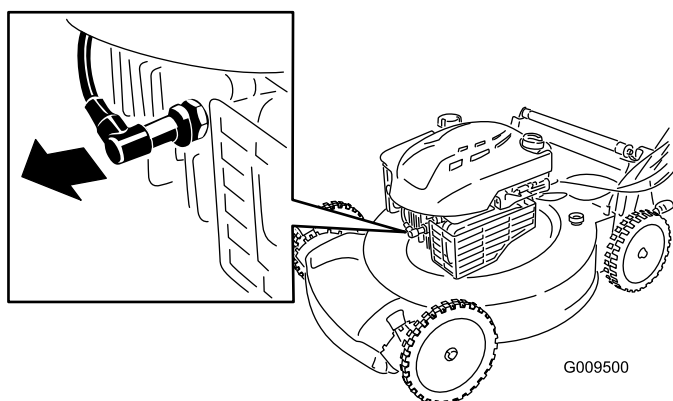

Figure 23
2. Disconnect the spark plug wire from the spark plug (Figure 23) before performing any maintenance procedure.